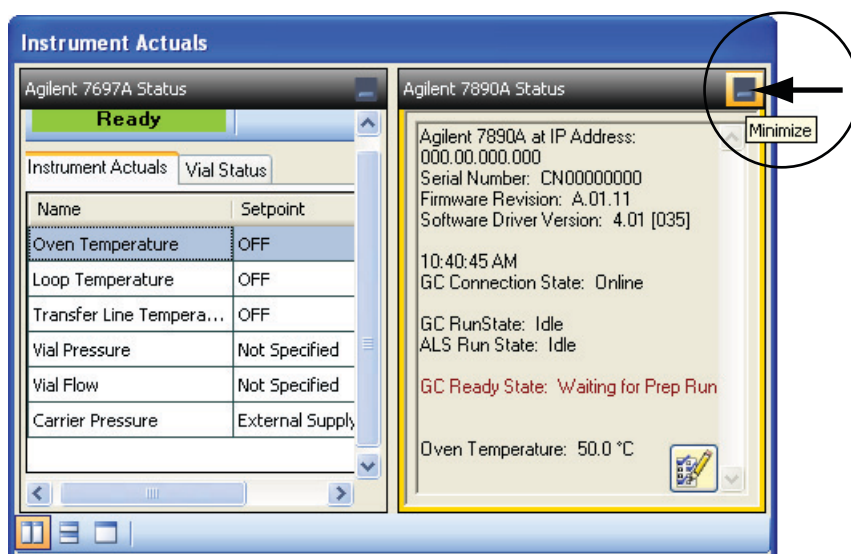

Figure 26 Minimizing Agilent 7890A Status panel
- To view the full Agilent 7697A **Instrument Actuals** panel, hide the **Agilent 7890A Status** panel by clicking the minimize icon in the top-right corner (Figure 26).